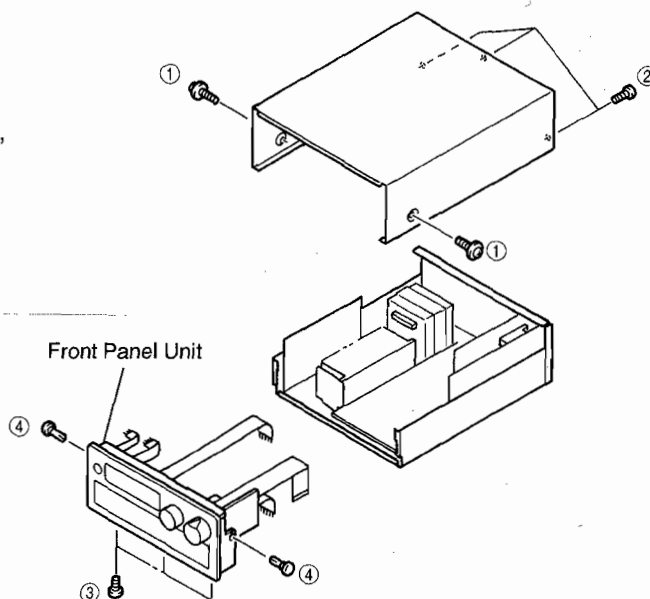

Fig. 1
- ⑨ MAIN P.C.B. ASS'Y (2)
- ⑩ FUNCTION P.C.B. ASS'Y(8)
- ⑪ FUNCTION P.C.B. ASS'Y(7)
- ⑫ FUNCTION P.C.B. ASS'Y(2)
- ⑬ FUNCTION P.C.B. ASS'Y(6)
- ⑭ FUNCTION P.C.B. ASS'Y(1)
- ⑮ FUNCTION P.C.B. ASS'Y(4)
- ⑯ FUNCTION P.C.B. ASS'Y(5)
Remove 2 screws ( ① ) and 3 screws ( ② ) in Fig. 1.
- b. Remove 3 screws ( ③ ) and 2 plastic rivets ( ④ ) and then remove the Front Panel Unit in Fig.1.